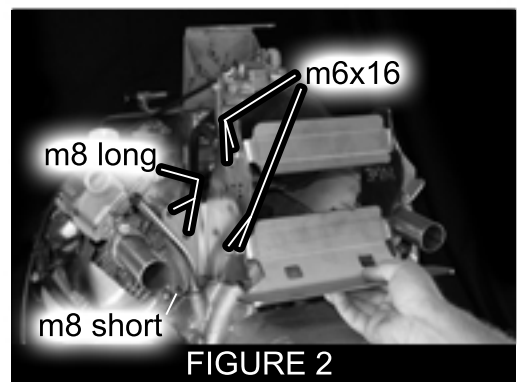

FIGURE 2
3. Assemble the bracket using G (8 small bolts, m6x16) and H (nylock nuts). Leave loose enough to allow movement of the braces. (SEE FIGURE 2)
4. Bolt the bracket to the engine using D (4 large long bolts, m8), E (2 large small bolts, m8) and F (8mm lock washers). Use 2 long m8 bolts thru 2 spacers on left top holes,(SEE FIGURE 2 & 3). -- i have found it easier to put top bolt thru 2 spacers first, then rotate spacers down to the second bolt hole --